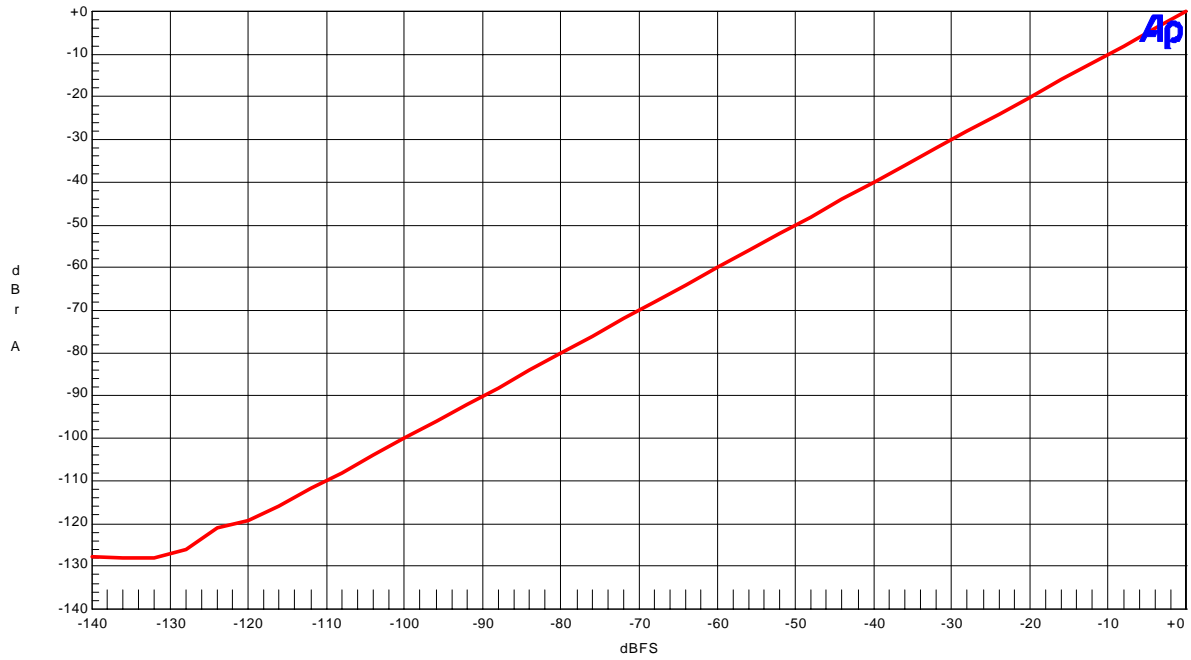

Figure 22. Linearity (fin=1kHz)
- Figure 22. Linearity (fin=1kHz)